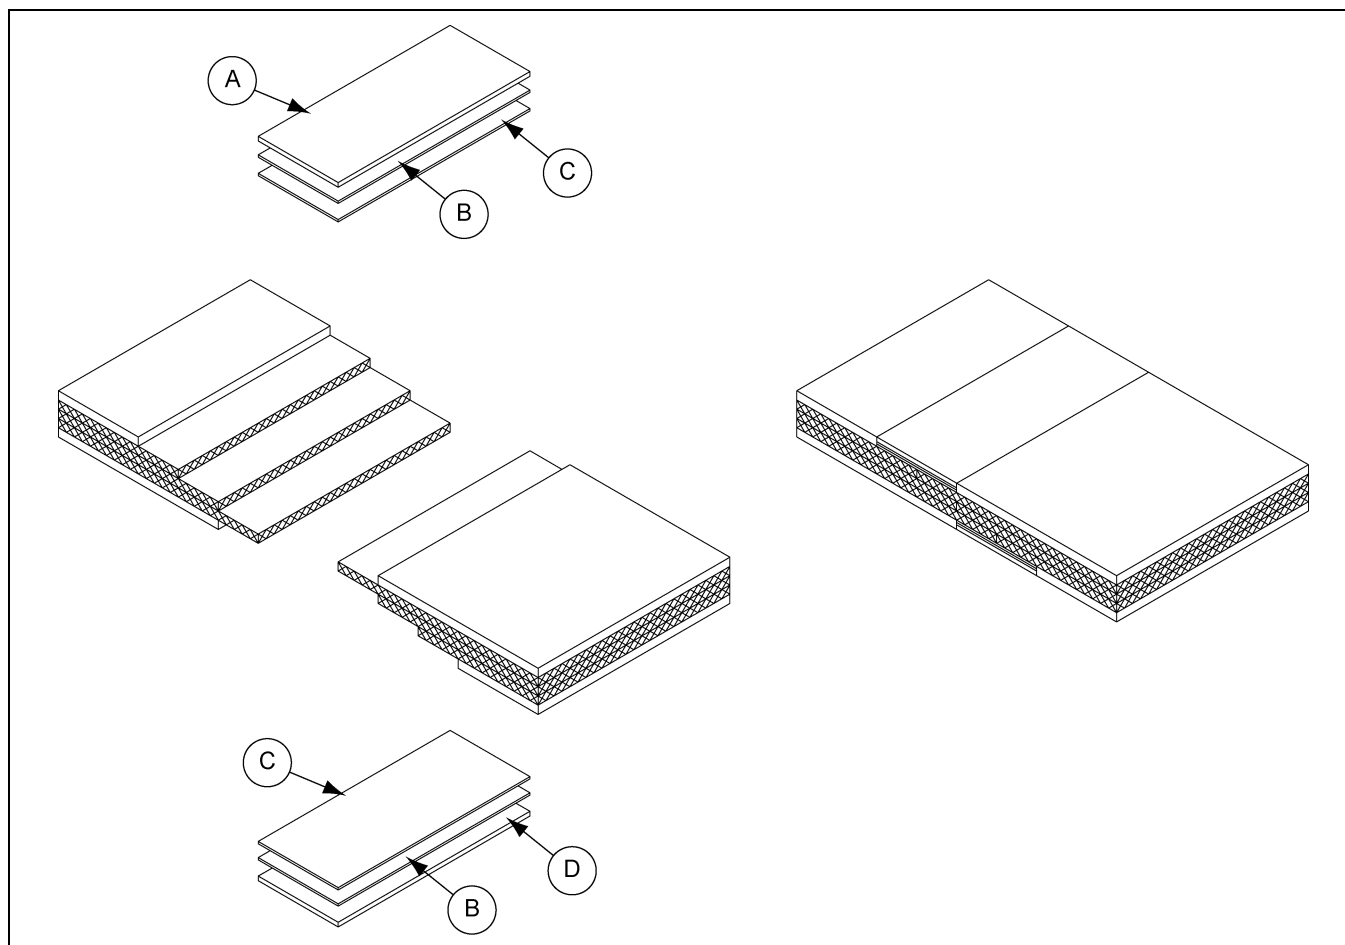

Figure 4X *Stepped Vulcanized Splice*
For some applications, such as when a plow assembly or multiple tripper assemblies are incorporated into a conveyor belt, a vulcanized belt splice is required. This type of splicing joins the two (2) ends of the belt rubber together with the adhesive power of a cement compound without the use of mechanical fasteners. Once the plies of the belt have been glued together, the seam is placed in a portable electric vulcanizing press, which applies even heat and pressure to the joint as the cement compound hardens. A stepped splice like the one shown in Figure 4X is a typical application of a vulcanized belt splice.